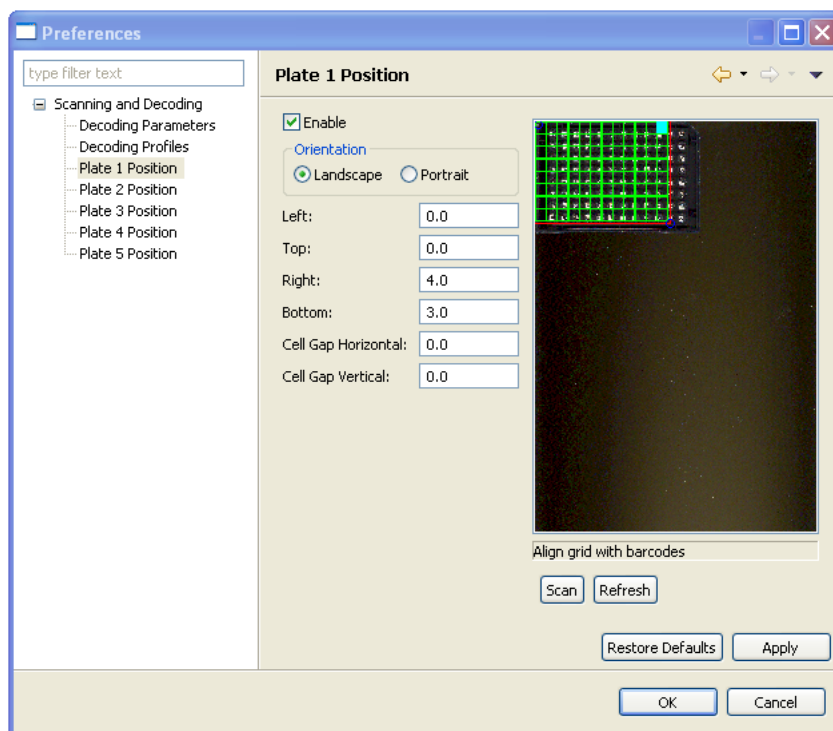

Figure 2.7: Sample flatbed scan.
5. Once the scan is done, you will see something similar to Figure 2.7. The image shown on the right hand side is the image taken by the scanner and superimposed is a grid with 8 rows and 12 columns. The cell coloured in cyan should correspond to tube in row A and column 1.